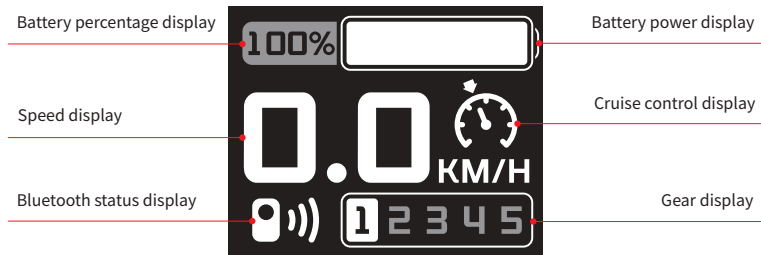

Figure 4.3.3.1
(1) Battery Percentage Display: Refer to Figure 4.3.3.1
(2) Speed Display: Refer to Figure 4.3.3.1
(3) Bluetooth Status Display: Refer to Figure 4.3.3.1